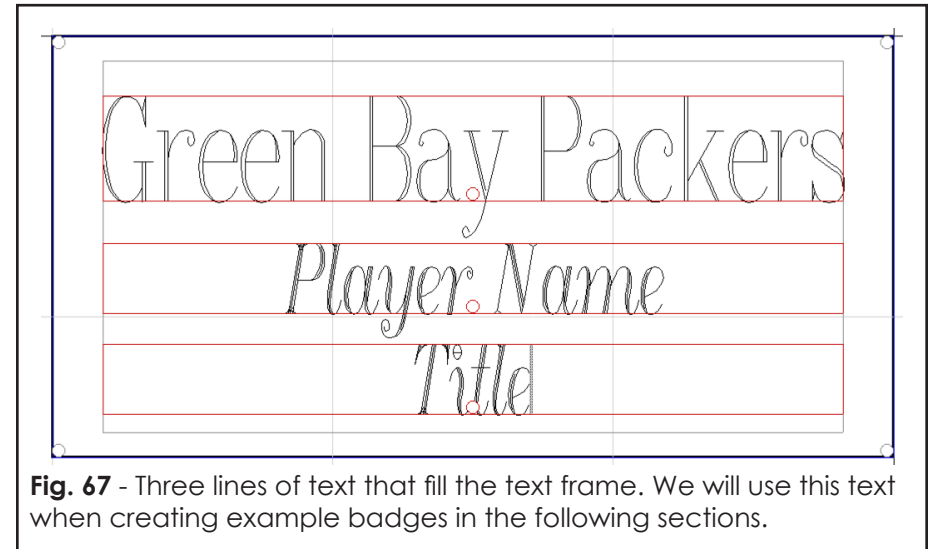

Fig. 67 - Three lines of text that fill the text frame. We will use this text when creating example badges in the following sections.
18. Type a third line (Fig. 67).